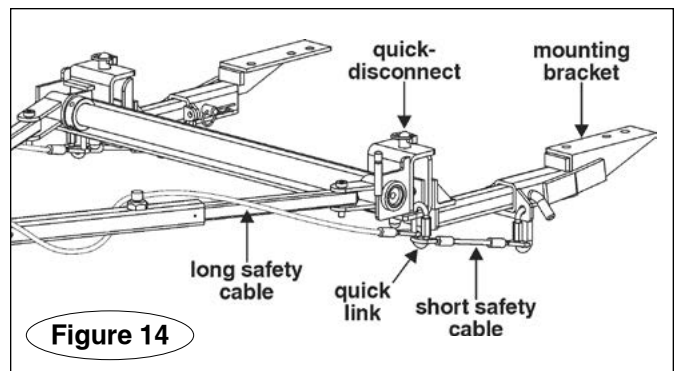

Figure 14
*Note: if it is difficult to lift the coupler, the towed vehicle's weight may be pressing against it. Release the pressure by pushing down on one or both of the Autowlok buttons (Figure 14) to unlock them.*
Some ROADMASTER tow bar mounting brackets with removable arms, such as the one in Figure 14, use both a long safety cable and a short safety cable on each side.
If your towing system requires two sets of safety cables, always use both the long and the short safety cables. Connect them as shown in Figure 14. Otherwise, in the event of a towing system failure, the towed vehicle will detach, which may cause property damage, personal injury or even death.